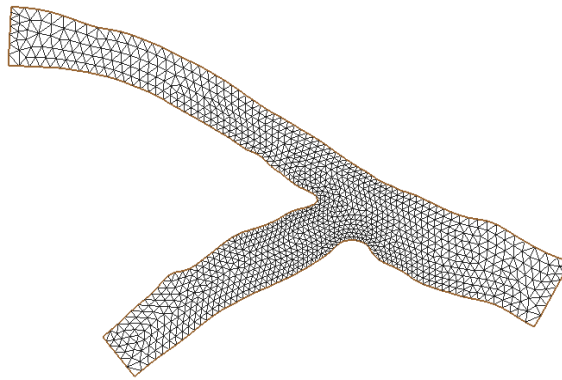

Figure 1. The mesh contained in the file *tribbase.geo*.
2. Open the file *tribbase.geo* from the Data Files Folder. If you still have geometry open from a previous tutorial, you will be asked if you want to delete existing data. If this happens, click the *Yes* button. If SMS asks for units, click the *U.S. Survey* button. The geometry should appear similar to Figure 1 (display options may vary).